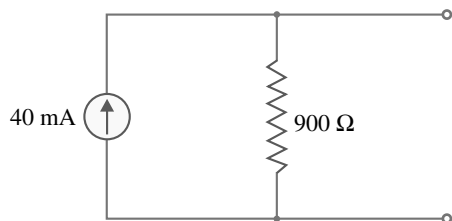

Fig. 1.54
- Convert the current source in Fig. 1.54 into the equivalent voltage source.